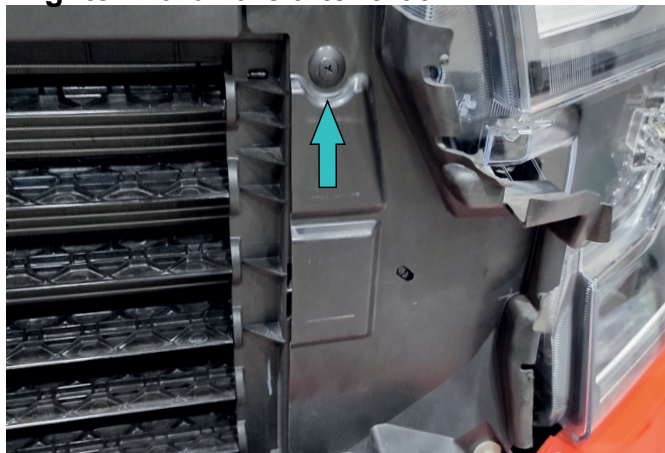

Fig.81
76. Install the factory clip from step 15 (fig.81).